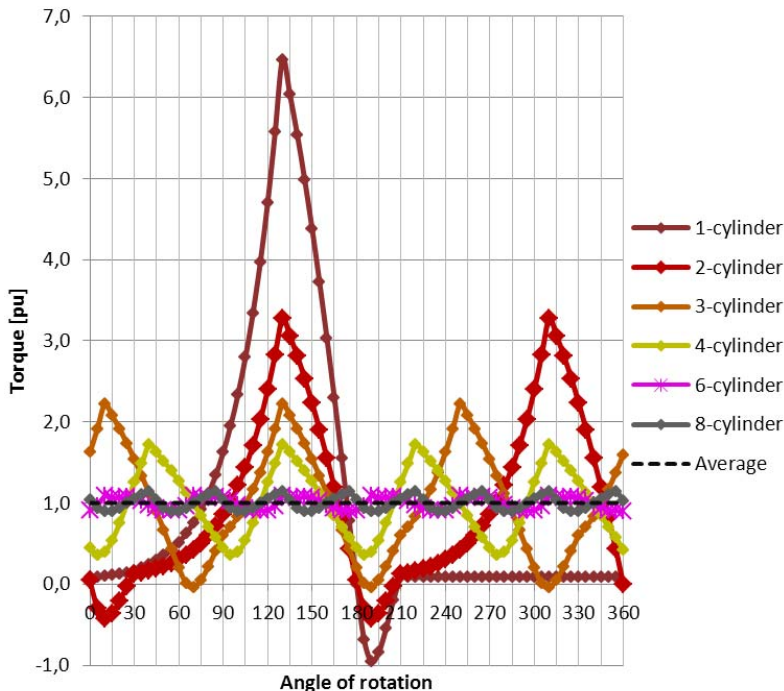

Fig. 2: Starting torque of reciprocating compressors with different numbers of cylinders
(9) Consideration of compressor make and type. With reciprocating compressors the number of cylinders is particularly important (see Fig.2). The starting torque of a 2-cylinder compressor e.g. is twice as high as the average torque.
(10) Consideration of rack-assisted starting. With an intelligent control system such as Isesco from KIMO RHVAC, fixed-speed compressors are started first. As soon as suction pressure is close to the setpoint, the frequency-controlled compressors are activated.
(11) Calculating the starting current required.
(12) Selection of the smallest possible refrigeration inverter able to supply the starting current needed.